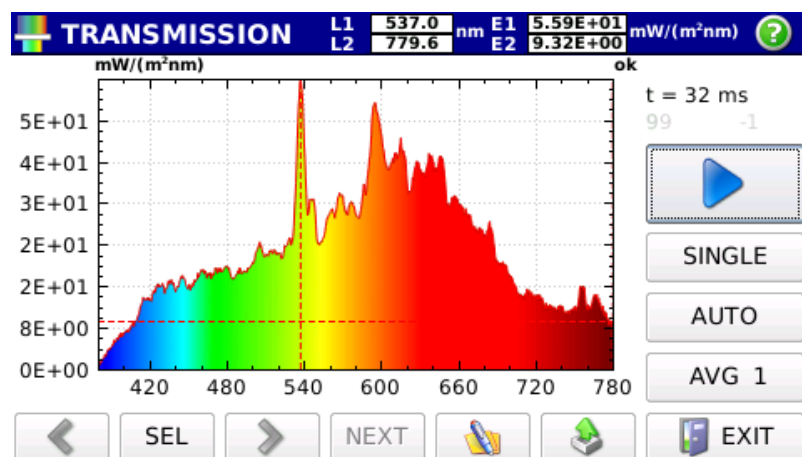

Fig. 3.25: reference spectrum acquisition
3.4.3 Press REF to acquire the reference spectrum. The spectrum is displayed on the screen (Fig. 3.25).